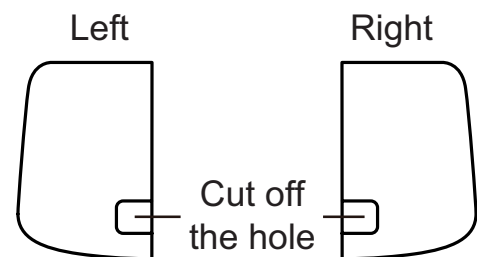

Fig. 4
- (2) When selecting to lead out the pipe from the left or right, please cut the corresponding hole in the bottom case. (As shown in Fig. 4)